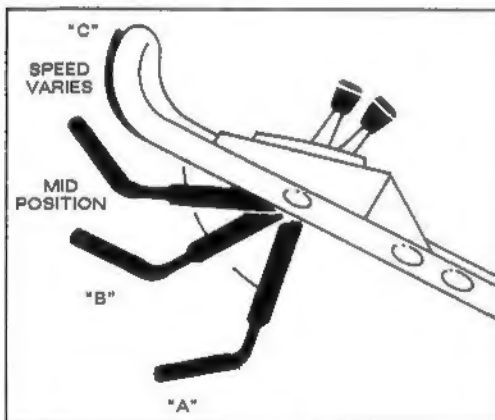

Figure 8
6. **BLADE AND TRACTION OPERATION** (Fig. 8)—Move control bar down to "A" and raise to engage blade "B". Move ground speed control to desired setting and squeeze control bar against handle "C" to drive. Ground speed varies, depending on space between control bar and handle.